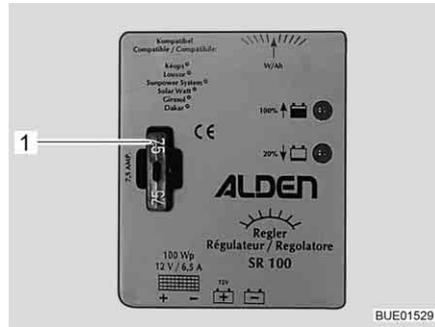

Fig. 187 Solar charge regulator fuse 100 W
- Replace flat fuse 5 A/light brown (Fig. 187,1).